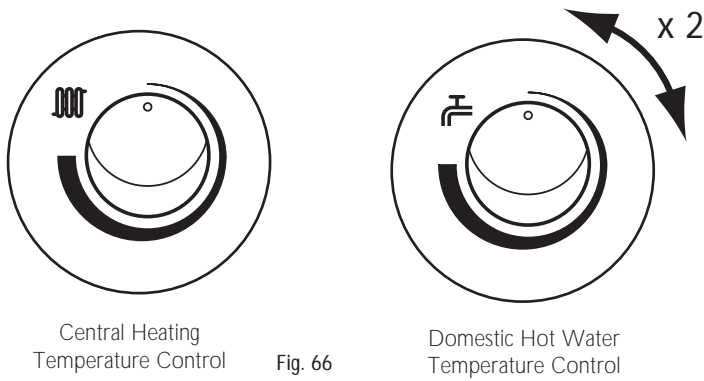

Fig. 66
3. Turn both temperature control knobs fully anticlockwise, then quickly turn the DHW temperature knob 1/4 clockwise twice and back fully anticlockwise (Fig. 66).